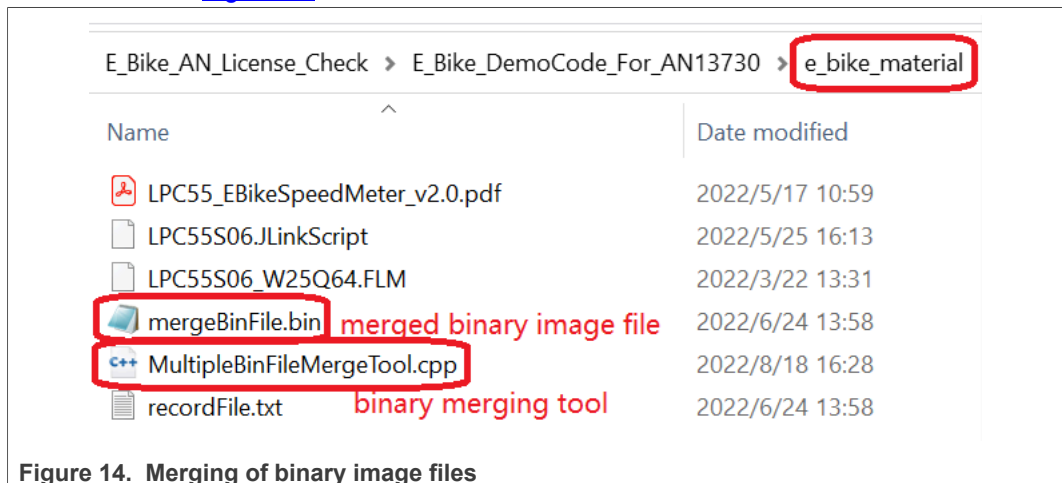

Figure 14. Merging of binary image files
2. Merge the binary image files generated in Step 1 into a single binary file called **mergeBinFile.bin**, using binary merge tool called **MultipleBinFileMergeTool.cpp**, as shown in Figure 14.